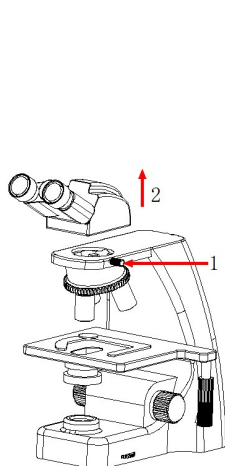

Figure 1
1. Separate the objective end of the microscope from the eyepiece end, as shown in figure 1.